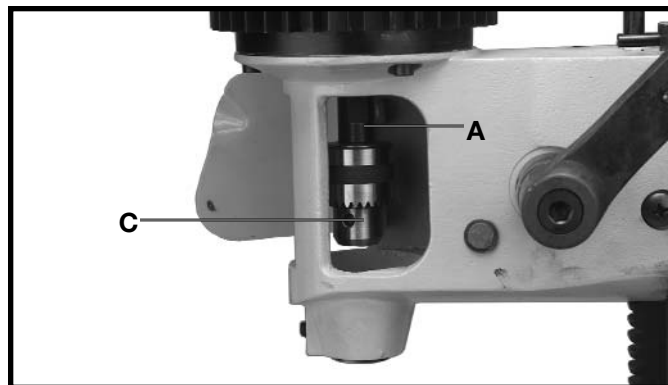
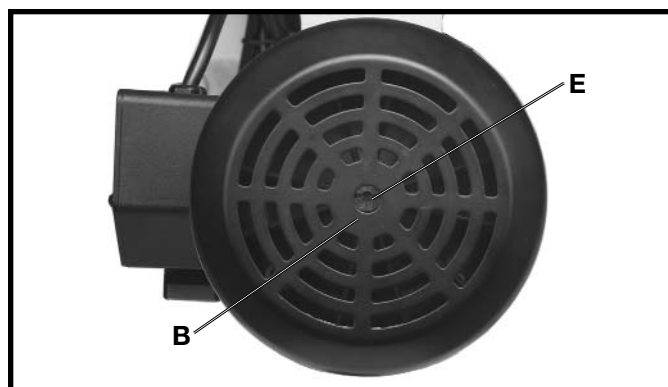
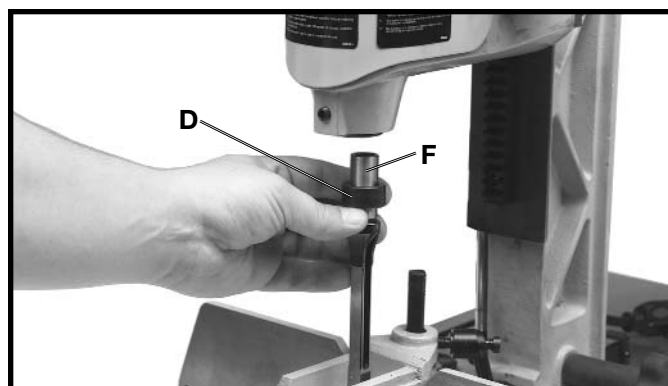

Fig. 32
Fig. 33
Fig. 34
When using bits with extra long shanks, it will be necessary to remove the extension (A) Fig. 32. This can be done by inserting screwdriver into center hole of motor end cap (B) Fig. 33, and into slot (E), in end of armature shaft. Then using chuck key, unscrew and remove chuck (C) Fig. 32, and extension (A). Remove extension (A) from chuck (C) and replace chuck (C) on end of motor shaft. The chisel spacer may also be used when using chisels with extra long shanks. Place the chisel spacer (D) Fig. 34 on the chisel shank (F) and insert chisel into chisel holder and tighten chisel holder securely.